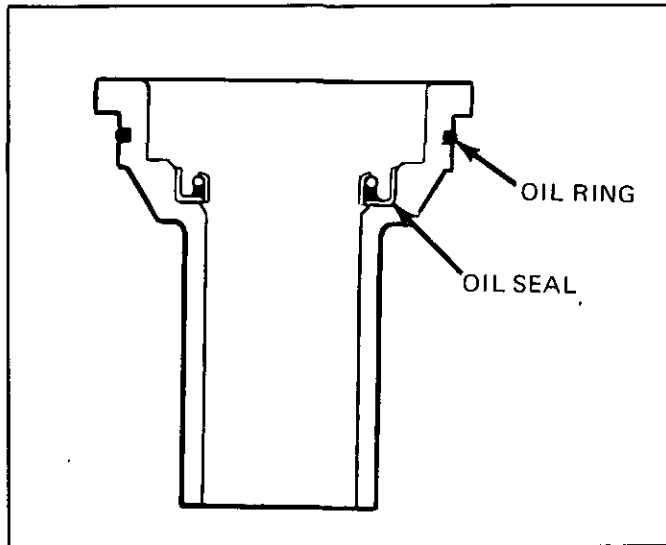

Figure 36 Oil Seal and Oil Ring
4. Remove external oil ring, and internal oil seal from sleeve (Figure 36).